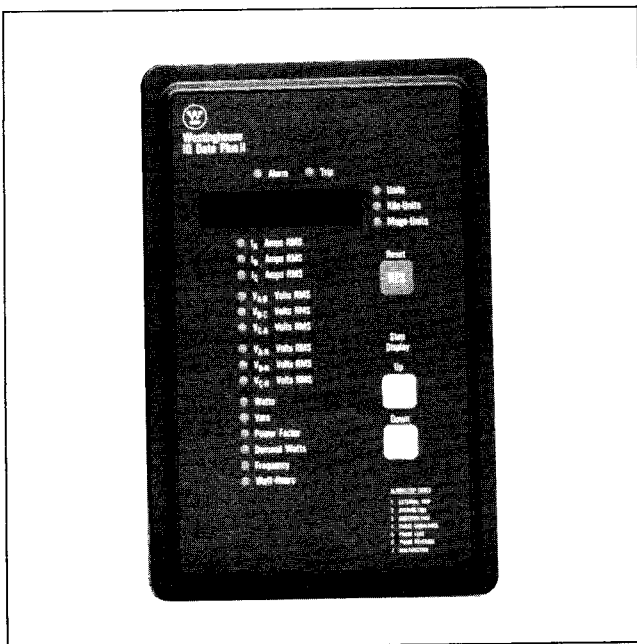

Figure 1.1 — IQ Data Plus II
**1.0 General** — The IQ Data Plus II™ is a microprocessor-based, self-contained, door-mounted device designed to both monitor and display electrical parameters as well as to protect industrial equipment connected to the line. (See Figure 1.1)